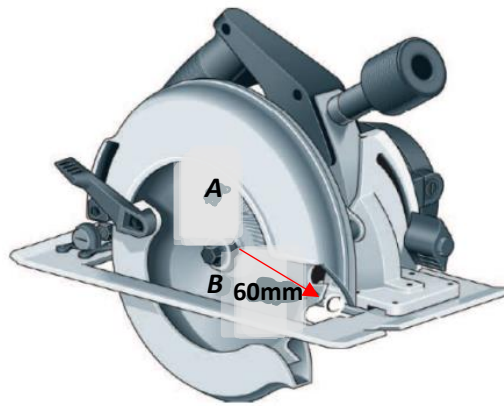

Figure 1(a)
- (b) If crank  $AB$  rotates with a constant angular velocity of  $\omega_{AB} = 6$  rad/s as shown in Figure 1(b), determine the angular velocity of rod  $BC$  and the velocity of the slider block at the instant shown. The rod is in a horizontal position.